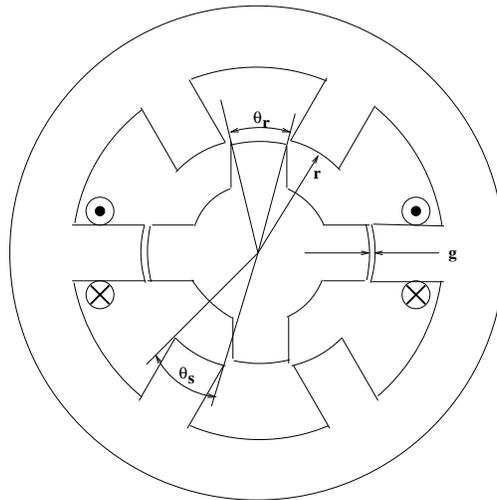
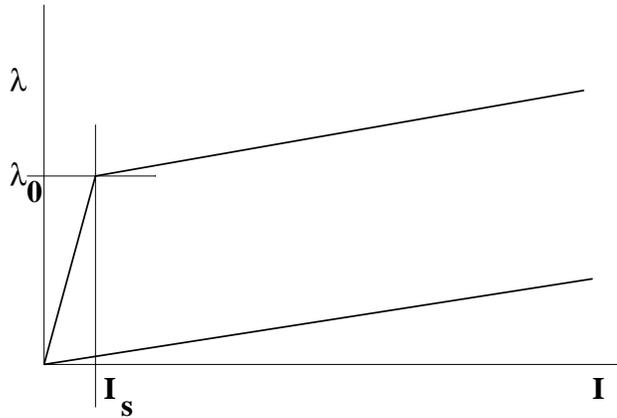
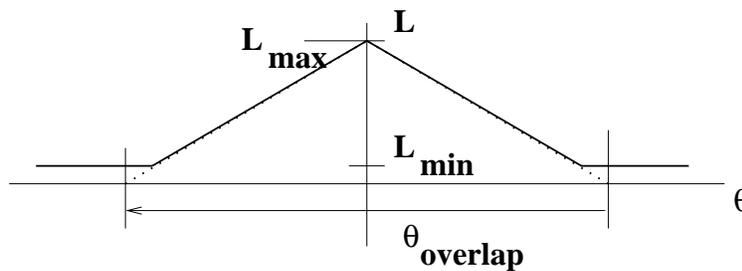

Figure 1: Crude Cartoon of a Variable Reluctance Machine
Figure 2: VRM Saturation Characteristic
Figure 3: Inductance vs. Alignment Angle
Figure 1 is a very crude picture of a “6-4” variable reluctance motor. The objective of this problem is to take a first-order look at operation of this machine. To start, assume that the flux vs. current pattern of the machine is as shown in Figure 2. For currents less than some “saturation” level, inductance of one winding of the motor is as shown in Figure 3. For currents greater than the “saturation” level, the incremental inductance is some lower level  $L_{sat}$  which is not a function of rotor position, so that, noting current is positive, flux is:
- Using Figures 2 and 3, calculate current in the one phase winding as a function of rotor angle and with flux as a parameter. Use values of flux of 0.2, 0.4, ... 2.0 Wb, and a range of angles from  $-\pi/2$  to  $\pi/2$ .